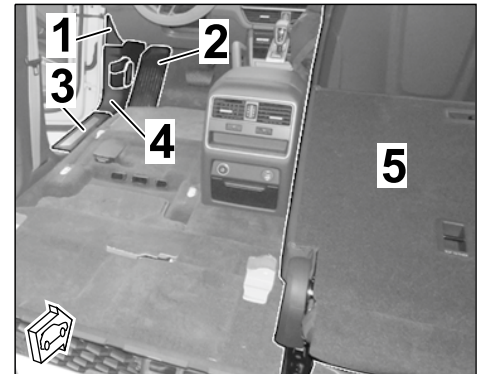

Figure 7
1.5 Expose the A-pillar area (left side) (⇒ *Figure 7*)